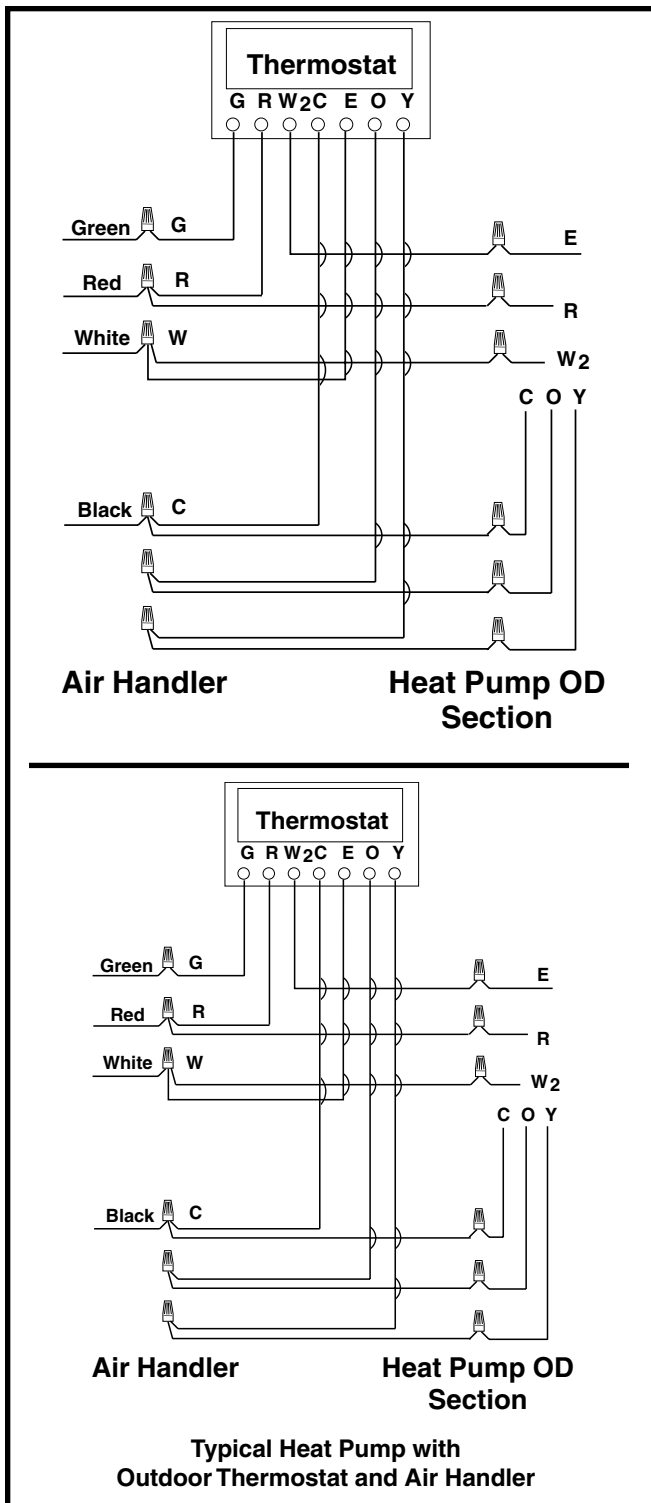

Figure 3. Typical Thermostat Connections
- The low voltage wires must be properly connected to the units low voltage terminal block (Figure 3).